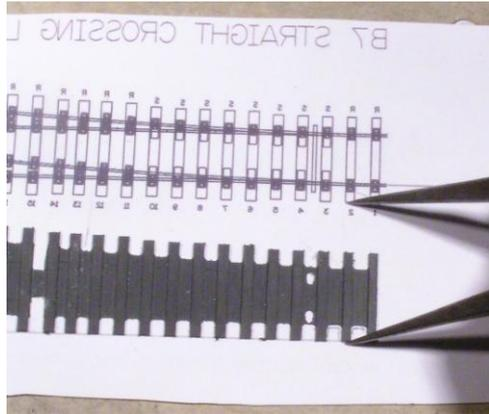

Fig 6 Using dividers to ensure that the base is parallel with the template.
3. Stick the modified turnout base to the template sheet with the timber ends on the straight edge parallel with those on the template and all the timbers aligned. Use Pritt or some similar water soluble adhesive. See fig 5. Ensure that the milled base is strictly parallel with the template using a pair of dividers on the ends of the timbers at each end of the template see fig 6. Keep these dividers set so that you can position the rails as you proceed in much the same way as if you had been working over the template.